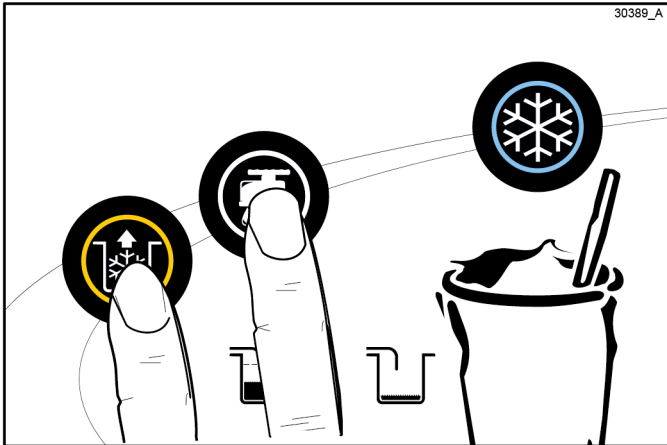

Figure 6-45
10. Press the Wash  and Pump  keys to stop the Wash and Pump modes and then close the draw valve. (See Figure 6-45.)